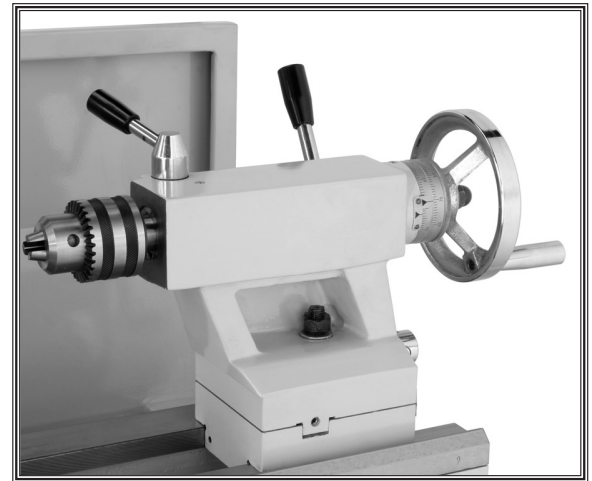

Figure 24. Setting up tailstock for drilling.
3. Insert the MT#3 chuck (Figure 24) or an MT#3 tapered drill shank into the quill until the taper is firmly seated.